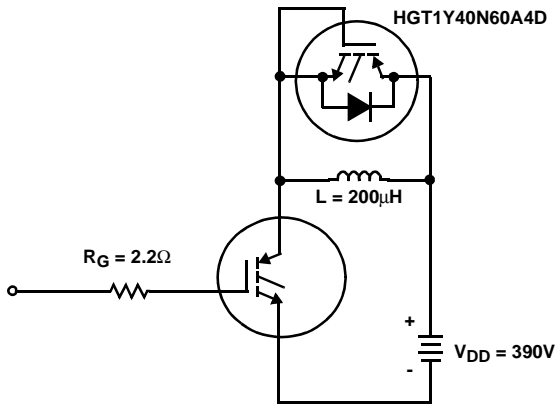

FIGURE 20. INDUCTIVE SWITCHING TEST CIRCUIT
| Current Turn-On Delay Time | $t_{d(ON)I}$ | IGBT and Diode at $T_J = 25^\circ\text{C}$ $I_{CE} = 40\text{A}$ $V_{CE} = 0.65 BV_{CES}$ $V_{GE} = 15\text{V}$ $R_G = 2.2\Omega$ $L = 200\mu\text{H}$ Test Circuit (Figure 20) | - | 25 | - | ns | |
| Current Turn-On Delay Time | $t_{d(ON)I}$ | IGBT and Diode at $T_J = 125^\circ\text{C}$ $I_{CE} = 40\text{A}$ $V_{CE} = 0.65 V_{CES}$ $V_{GE} = 15\text{V}$ $R_G = 2.2\Omega$ $L = 200\mu\text{H}$ Test Circuit (Figure 20) | - | 27 | - | ns |
- Values for two Turn-On loss conditions are shown for the convenience of the circuit designer. E_{ON1} is the turn-on loss of the IGBT only. E_{ON2} is the turn-on loss when a typical diode is used in the test circuit and the diode is at the same T_J as the IGBT. The diode type is specified in Figure 20.